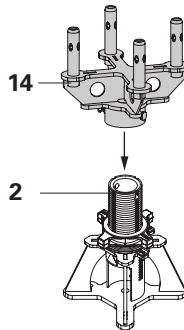

Fig. 23a
1. Place Connector UJC (14) with connecting bolts (14a) on the spindle tube (2). (Fig. 23a + 23b)